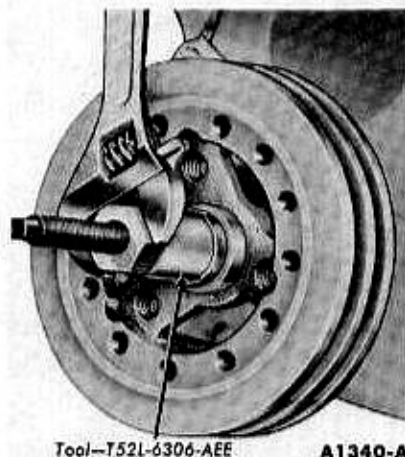

FIG. 44—Damper Installation
6. Line up the damper keyway with the key on the crankshaft, then install the damper on the crankshaft (Fig. 44).